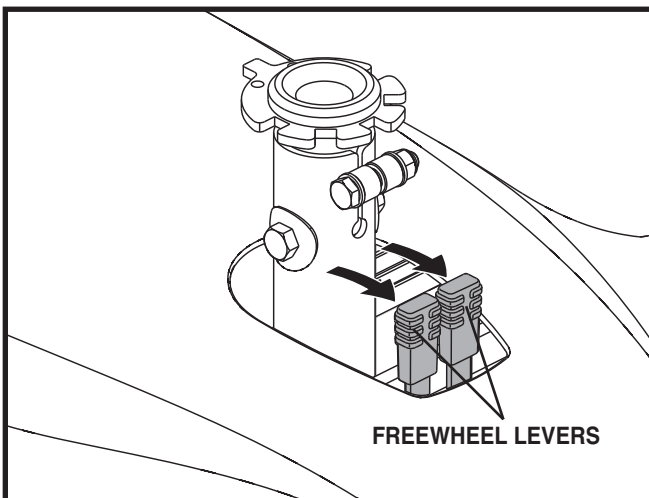

Figure 4. Drive Mode (Drive Engaged)
2. Push both levers forward away from the seat post to engage the drive motors (drive mode). **See figure 4.**
2. Ensure the power chair is in drive mode. **See figure 4.**